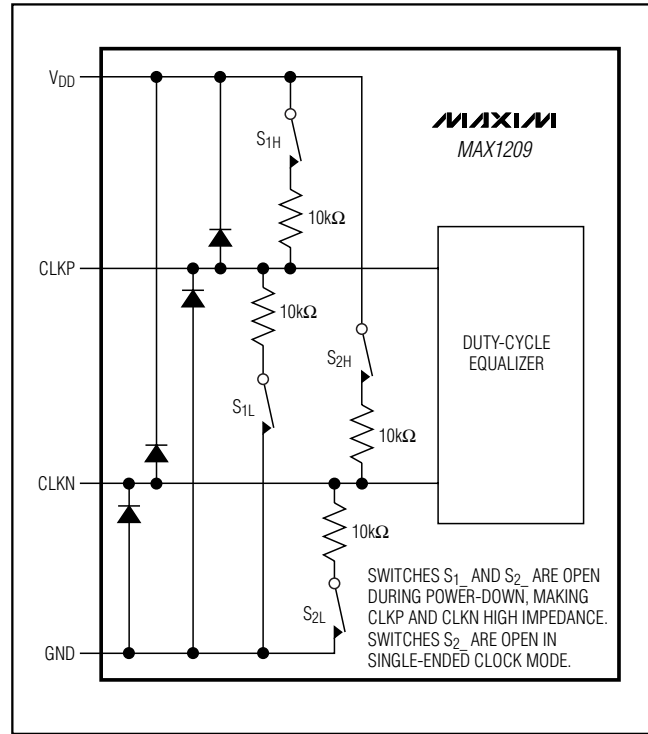

Figure 5. Simplified Clock Input Circuit
CLKP and CLKN are high impedance when the MAX1209 is powered down (Figure 5).
- CLKP and CLKN go high impedance (Figure 5).